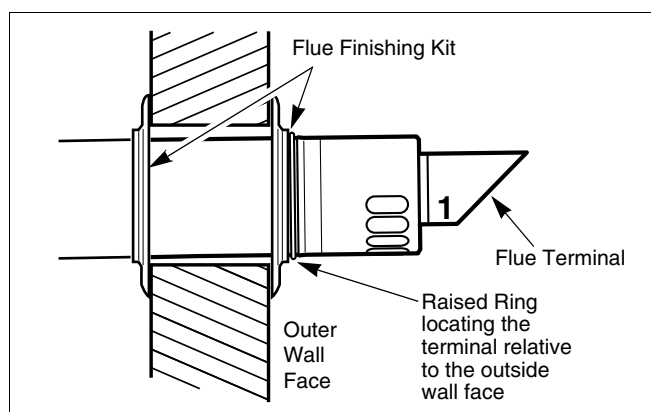

fig. 23 Flue terminal position
- Mark off the lengths shown onto the ducts and cut the length. The cuts must be square and free from burrs. Terminal assembly outer (air) duct - L-70 mm, inner (flue) duct - L-50 mm. The measurement is made from the ridge at the terminal indicating the outer face of the wall. Refer to figure 23. Extension air duct - L-70 mm, flue duct - L-50 mm. The measurement is from the formed end.
- Assemble flue system completely. Push the ducts fully together. The slope of the terminal outlet must be face downwards (see fig. 23, item 1). The assembly will be made easier if a solvent free grease is lightly applied to the male end of the ducts.